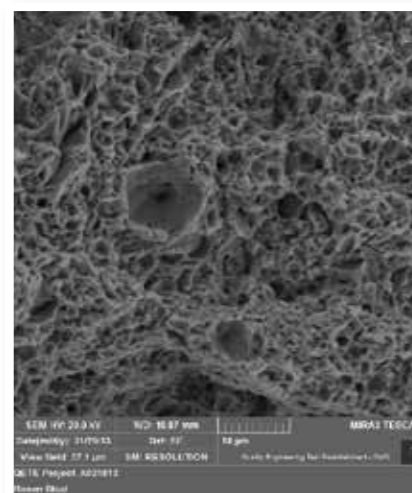

Figure 2. An SEM micrograph showing ductile dimples which are characteristic of overload. (QETE Project A021812)
5. CNOP Manual, Pg. 40, Figure 2